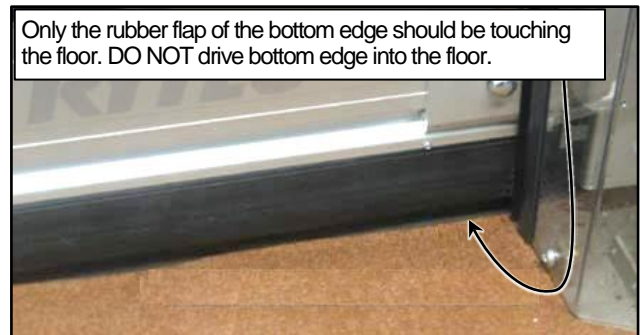

Figure 90
5. The close limit must be set first, use the down (▼) arrow to position the bottom edge gently on the floor. (See Figure 90) DO NOT drive the edge into the floor. When the proper position is achieved push and hold the Reset (●) until the display reads, "Close limit Set, to open position".